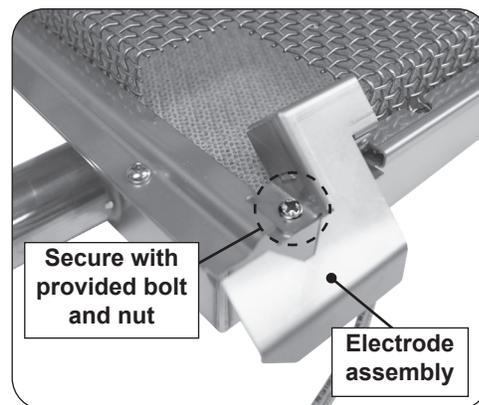

Fig. 4-3 Install electrode assembly
3. Using the provided bolt and nut, install the electrode assembly onto the infrared burner. See Fig. 4-3.